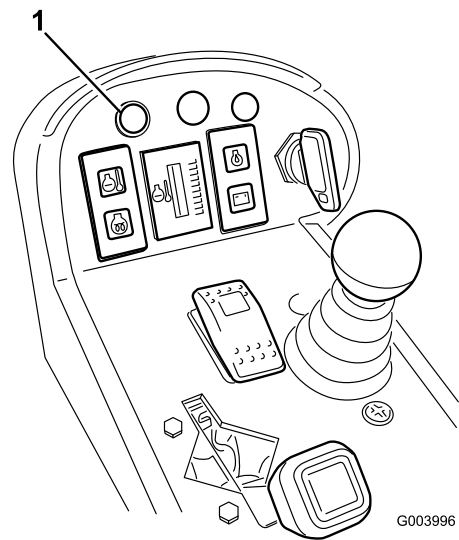

Figure 39
3. Remove and replace the filter (Figure 39).